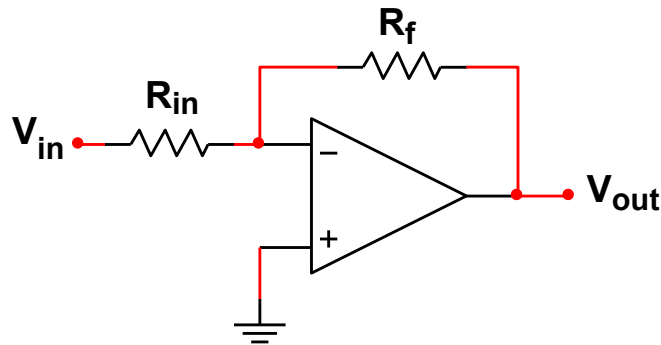

Figure P.1 – Inverting Amplifier
1. Using **Table 1** and **Figure P.1**, design an **DC Inverting Amplifier** that has the following specifications:
- **Closed Loop Voltage Gain (K) = -10**